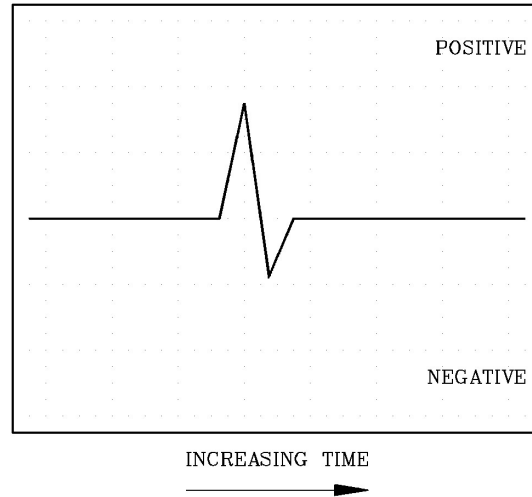

Fig. 4.2
3. Hold the pickup vertically. While observing the oscilloscope display, lightly tap the bottom of the pickup. The trace will initially move up, as shown in Figure 4.2, demonstrating the transducer convention that motion towards the transducer produces a positive voltage output.